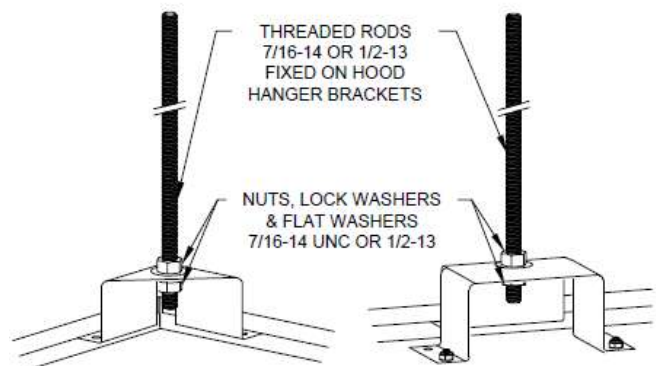

FIGURE 2 - Hood Hangar Brackets
- 1- Install threaded rods between the ceiling and the hood supports, and assemble washer, lock washer and nut on threaded rods over and under the supports (see **FIGURE 2**). Use 7/16-14 UNC or 1/2-13 UNC hardware.